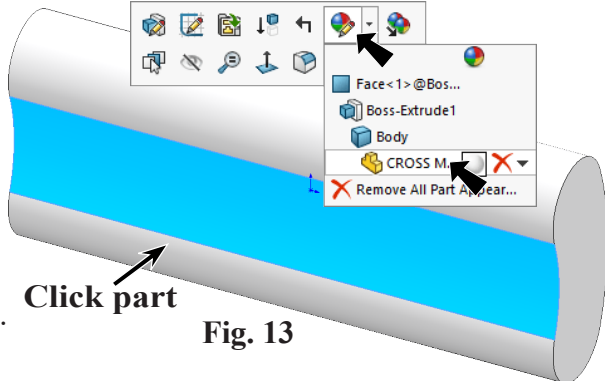

Fig. 13
Step 1. Click part, click **Appearance Callout** on the context toolbar and click **CROSS M...** , Fig. 13.